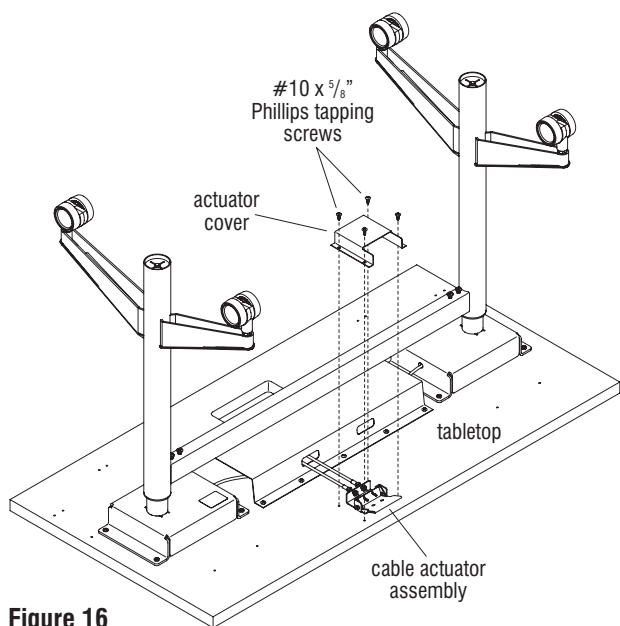

Figure 16
34. Begin "Test 2" adjustments by moving under the table or carefully placing the table upside down on a soft, protective surface to gain access to the height actuator handle and cables (Figure 16). At the side of the table which could be pressed down with the table raised, locate the appropriate cable housing and M8 nuts to lessen that cable tension. Using the  $\frac{7}{16}$ " wrench, loosen the bottom M8 nut one-quarter to one-half of a turn, or until tension releases. Then, twist the top M8 nut down finger tight and use the  $\frac{7}{16}$ " wrench to turn the nut one-quarter to one-half turn more to tighten it (Detail X). Carefully turn the table to the upright position, press the height actuator handle to raise the table, and test the side that was adjusted to see if it lowers with pressure. If it does not lower, no more adjustment is required, but if it does lower, repeat step 34.
35. Move under the table or carefully place the table upside down on a soft, protective surface (Figure 16).
36. At the underside of the tabletop, position the actuator cover above the cable actuator assembly. Secure the cover to the tabletop using four #10 x  $\frac{5}{8}$ " Phillips tapping screws (Figure 16).